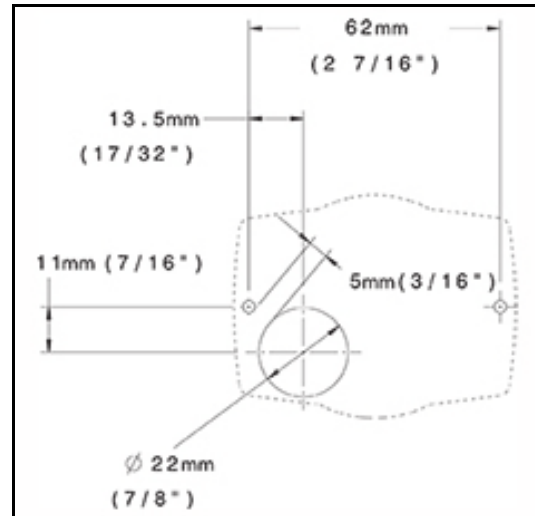

Figure 31. SmartTemp drilling dimensions
- Use the drilling dimensions (fig. 31) to lightly mark the two mounting holes.